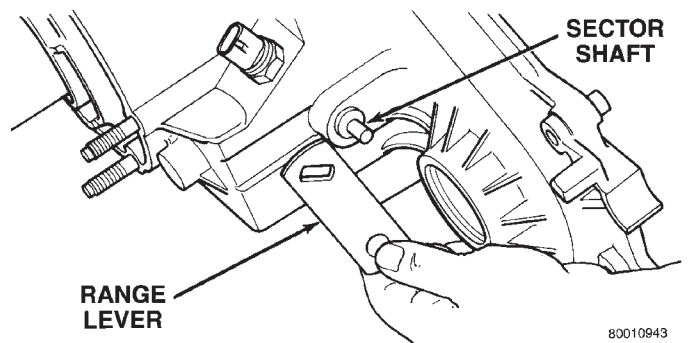

Fig. 17 Range Lever Removal
(4) Remove seal washer from front output shaft. Discard washer as it should not be reused.
(5) Remove nut and washer that attach range lever to sector shaft. Then move sector to neutral position and remove range lever from shaft (Fig. 17).